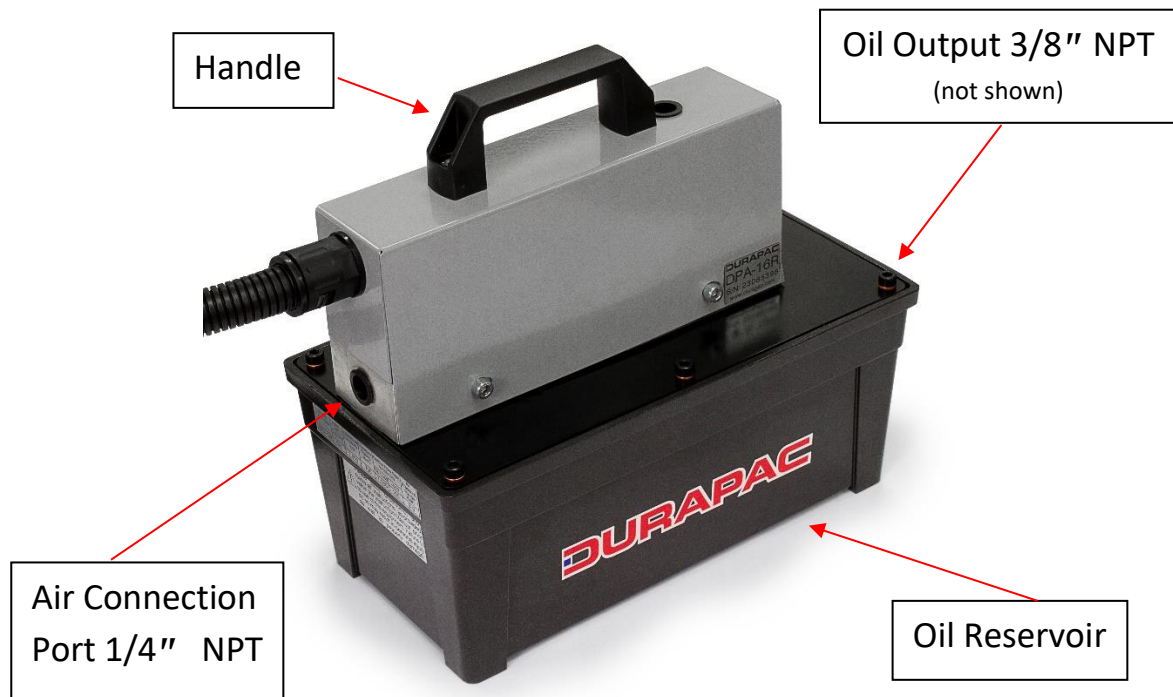

Figure 1 - DPA-16R Components (excl. Remote)
- 5.1 Air connection - Remove plug from air input port (refer Figure 1) and connect to adequate air supply.
- 5.2 Hydraulic connection - Remove manifold plug from oil output port and connect to suitable application using 3/8" NPT connection (refer Figure 1).
- 5.3 To operate power unit, press and hold on the advance button of the remote control until the desired pressure, load or position is reached (refer Figure 1).